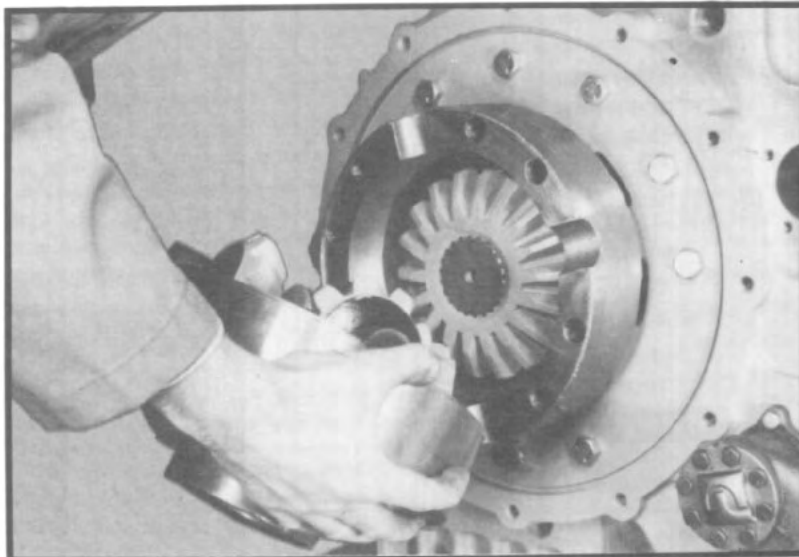

Fig. 129
2.19 Assemble rear half of differential case with the spider and pinion gear assembly to the front half of the differential case. (See fig. 129.) Make sure to align the alignment marks (denoted by an X on the assembled case halves) when assembling the rear half of the differential case. (See fig. 130.) Bolt halves together using the eight bolts and nuts. Check the differential assembly to see that it rotates freely.